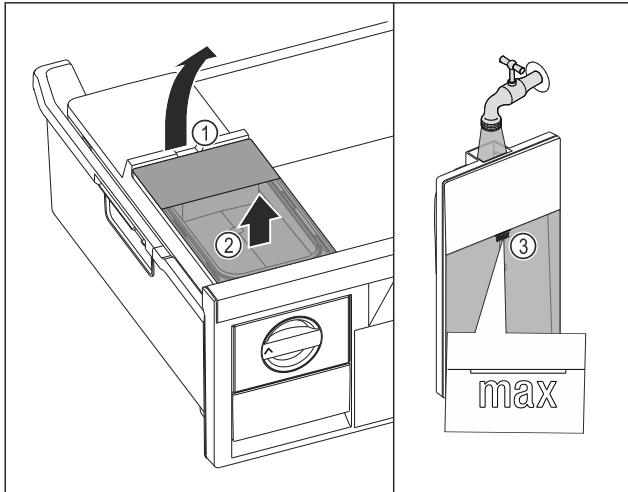

Fig. 71
- Lift the water tank at the recess Fig. 71 (1).
- Remove the water tank by lifting it upwards. Fig. 71 (2).
- Fill the water tank with drinking water up to the mark Fig. 71 (3).